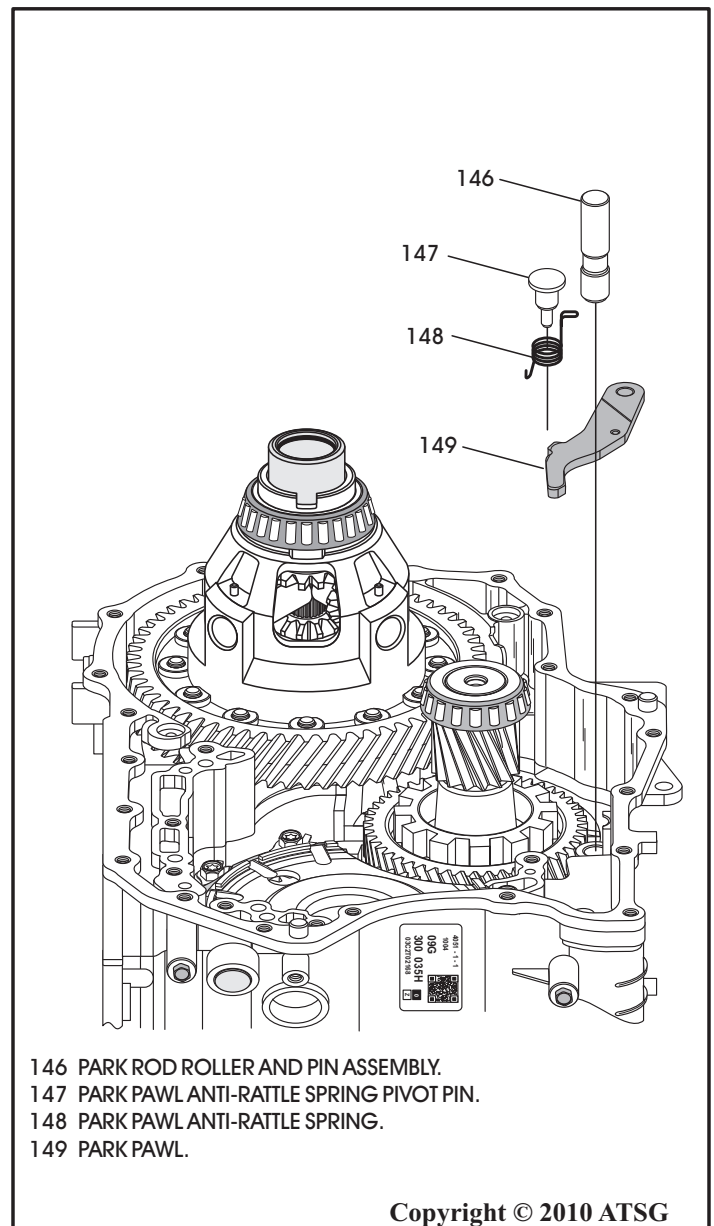

Figure 79
56. Remove park pawl anti-rattle spring and pivot pin, as shown in Figure 79.
57. Remove the park rod roller and pin assembly, as shown in Figure 79.
58. Remove the park pawl as shown in Figure 79.